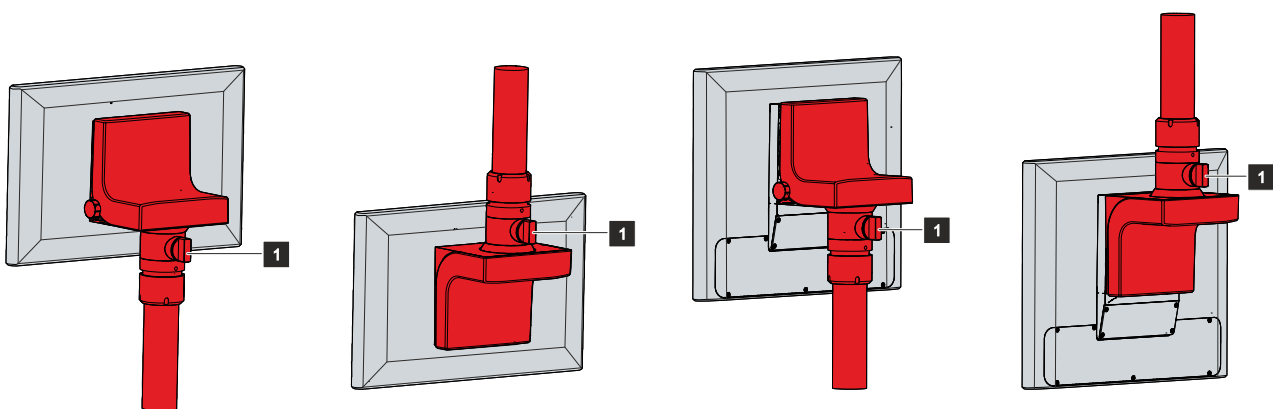

Fig. 19: Options mounting arm adapter
Depending on the ordering option, the mounting arm adapters mounted ex factory are either oriented upwards or downwards. In addition, you have the option of ordering the device with a mounted push button extension (see chapter 3 Product overview [► 9]). With the push button extension, the mounting arm adapter can also be oriented either upwards or downwards. All mounting arm adapters have a locking screw to prevent rotation (1). Figure 19 shows the control panel with all four mounting arm adapter options mounted ex factory, for example.